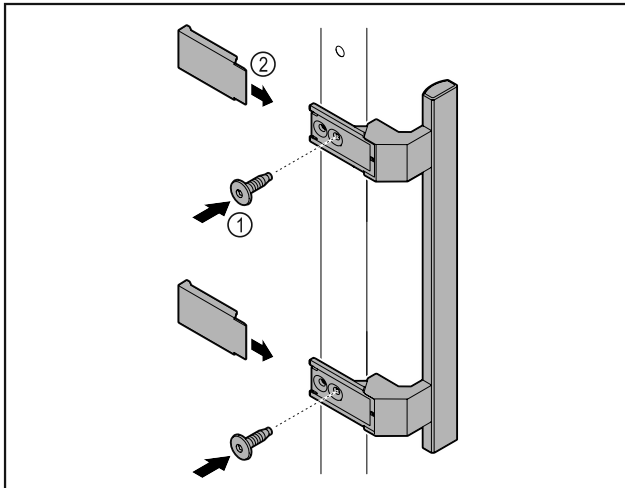

Fig. 5
- ▶ Attach handle from accessory kit to the door using the screws Fig. 5 (1) supplied.
- ▶ Put on cover Fig. 5 (2).